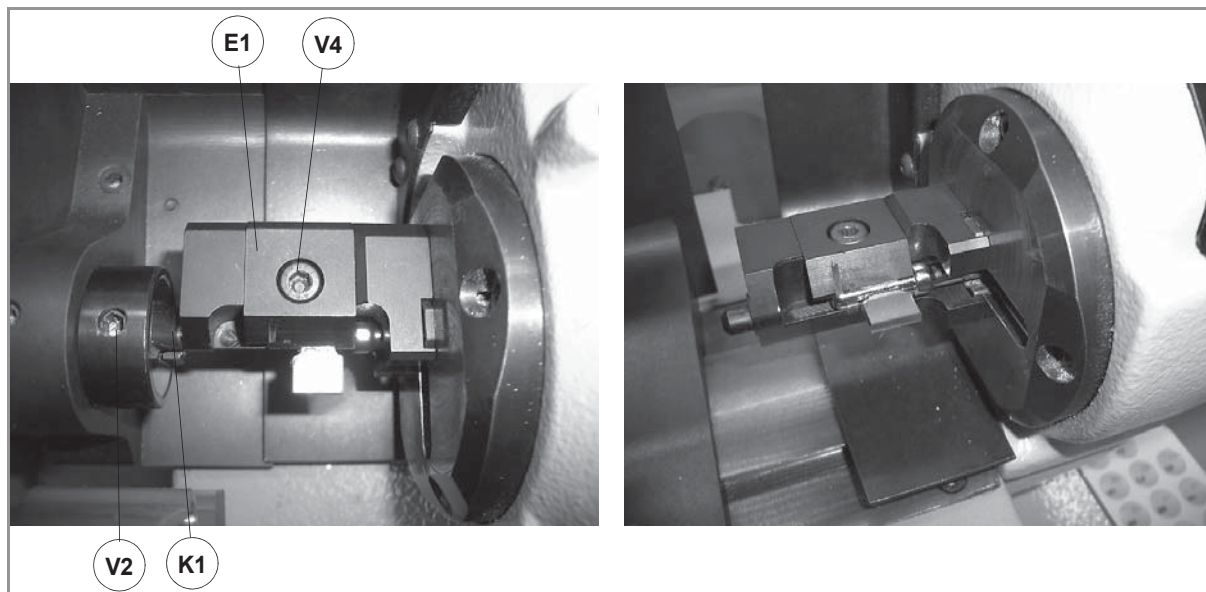

Fig. 33
- 3) Fit the key blank into the adapter E1, taking care that it is in the right position (fig. 33), then tighten the screw (V4).